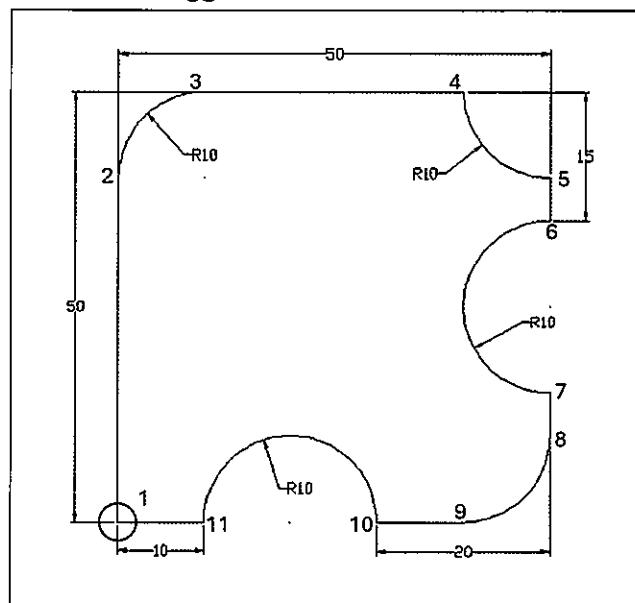

Figure 3c / Rajah 3c
- (c) Based on the diagram in **Figure 3c**, construct the G-code program in **Table 3c** below using the absolute coordinate system.